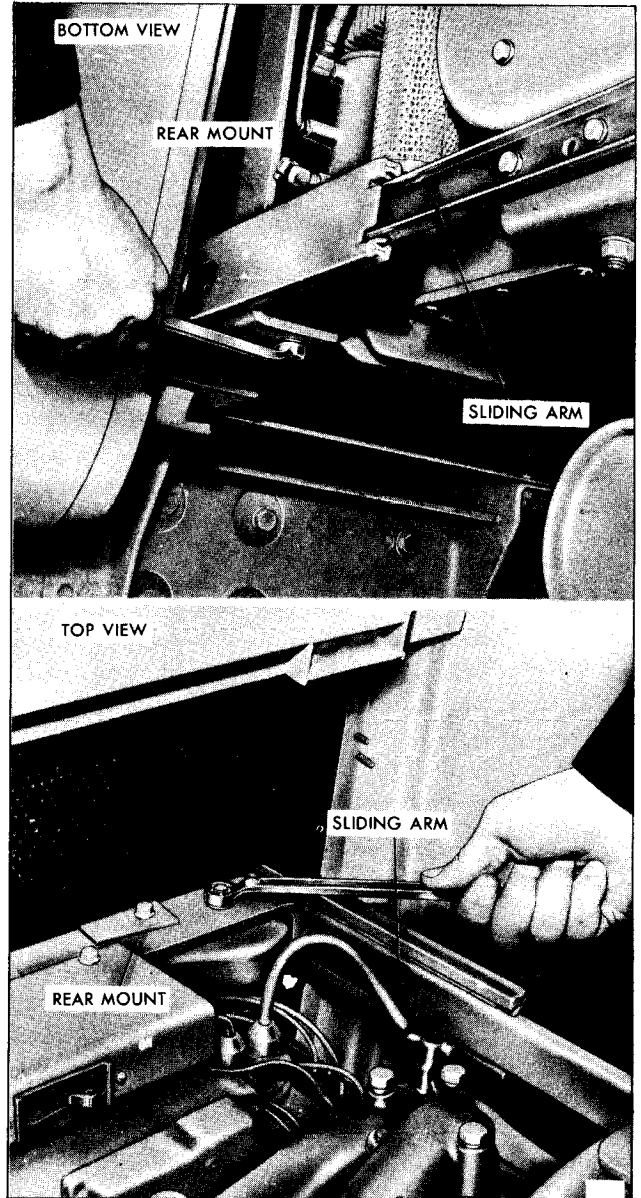

Figure 2-Disconnecting Rear Mounts
7. Remove mounting fasteners from rear mount (figure 2).
5. Install rear mounting fasteners as shown in Figure 2.